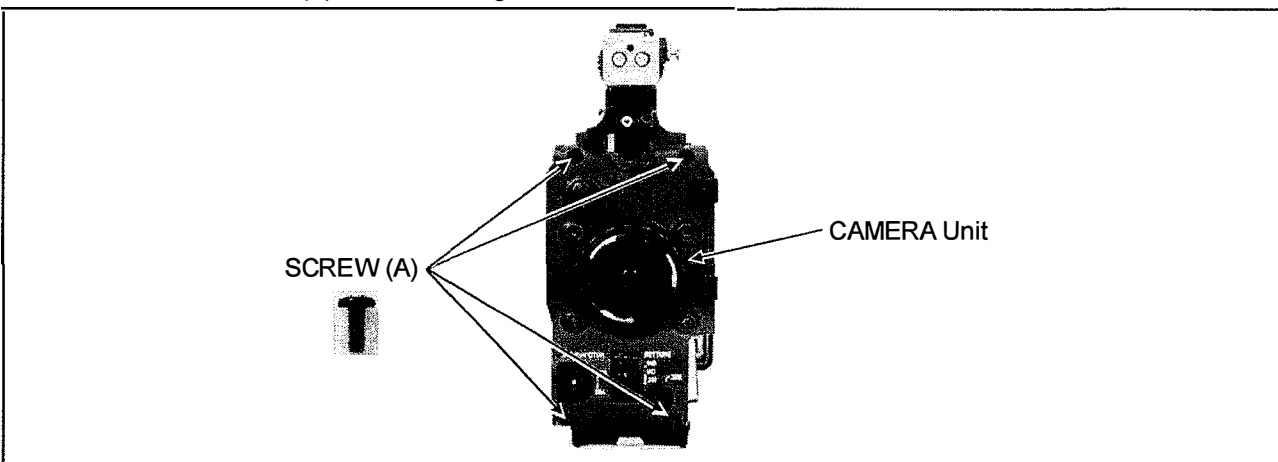

Figure 13-3
6. Unscrew the 4 screws (A) as shown in figure 13-3 and remove the CAMERA Unit.